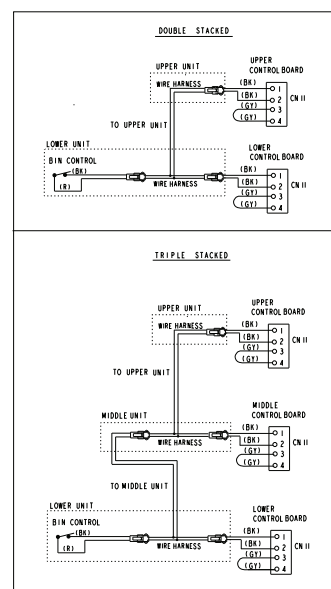

Fig. 16
- 29) Place the wiring label provided in this kit on the control box cover. See Fig. 16.